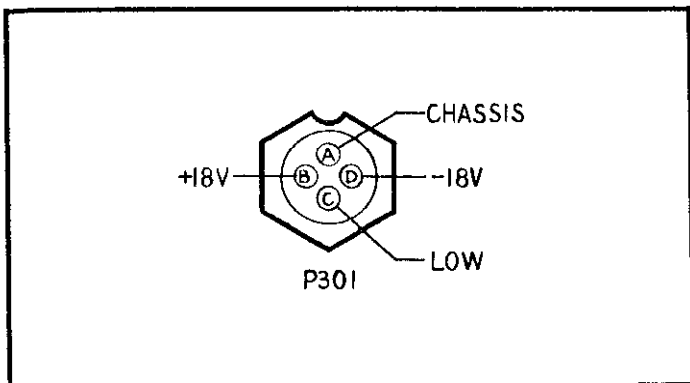

FIGURE 7a. Power Receptacle.
**c. Power Input.** The Model 103A has a special four terminal receptacle on the rear panel for input power connections. This receptacle (P301) is an Amphenol 126-214 connector which mates with Keithley Model 1083 Power Cable. The four terminals are designated A, B, C, and D as shown in Figure 7a. The Model 1083 Power Cable can be used to connect with the Model 840 Auxiliary Power receptacle or any one of three power receptacles on the Model 1031A. To avoid unnecessary ground loops the Model 103A has been designed so that circuit low to chassis ground connection is made at only one point in the power supply (either Model 840 or Model 1031A). If a different power supply is used (a regulated supply or batteries) the connection between circuit low to chassis ground should be made at the supply using a 10 ohm resistor.